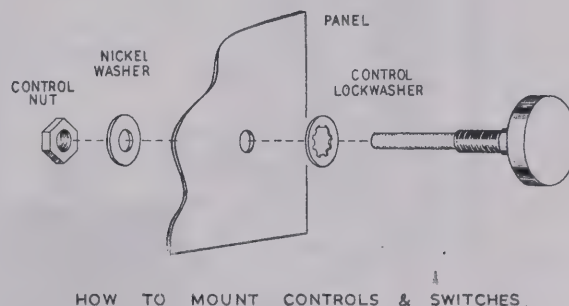

Figure 3
- (✓) Mount the 10 Ω calibration control in location C. Be sure to have the lugs directed as shown in Pictorial 1. Use a control lockwasher between the control and the panel. Do not use a control flat washer on this control. See Figure 3 for proper mounting procedure.